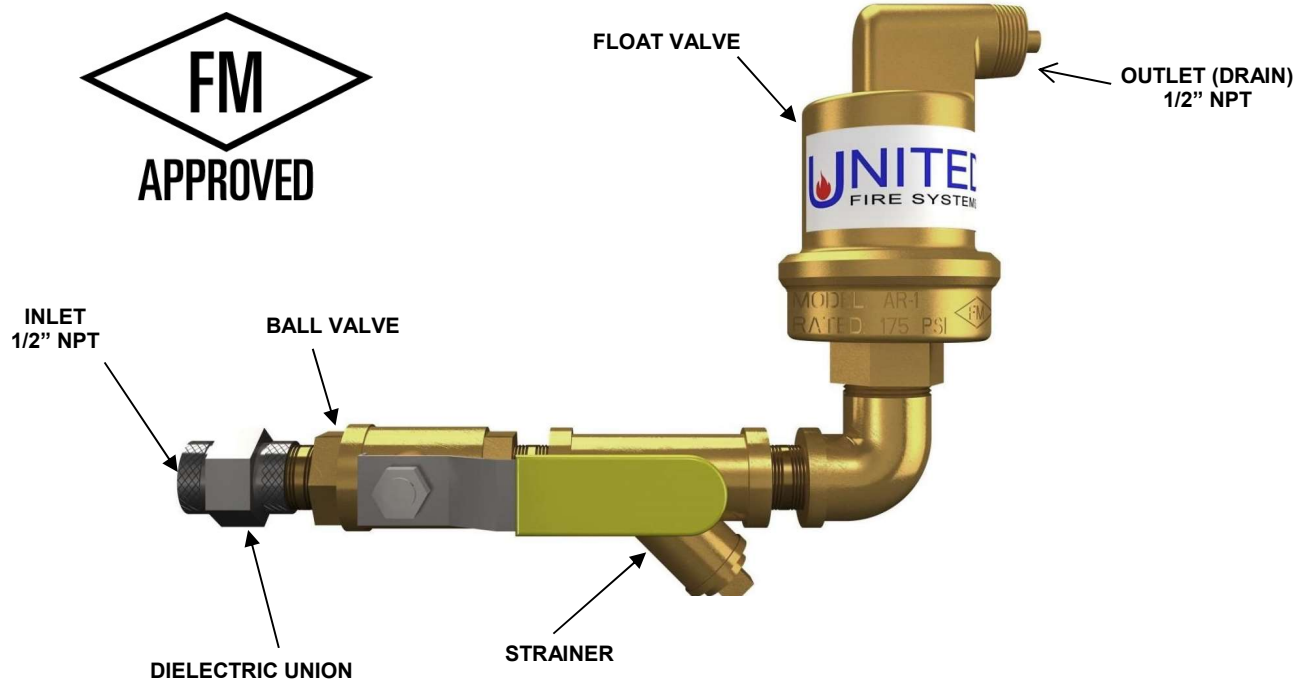
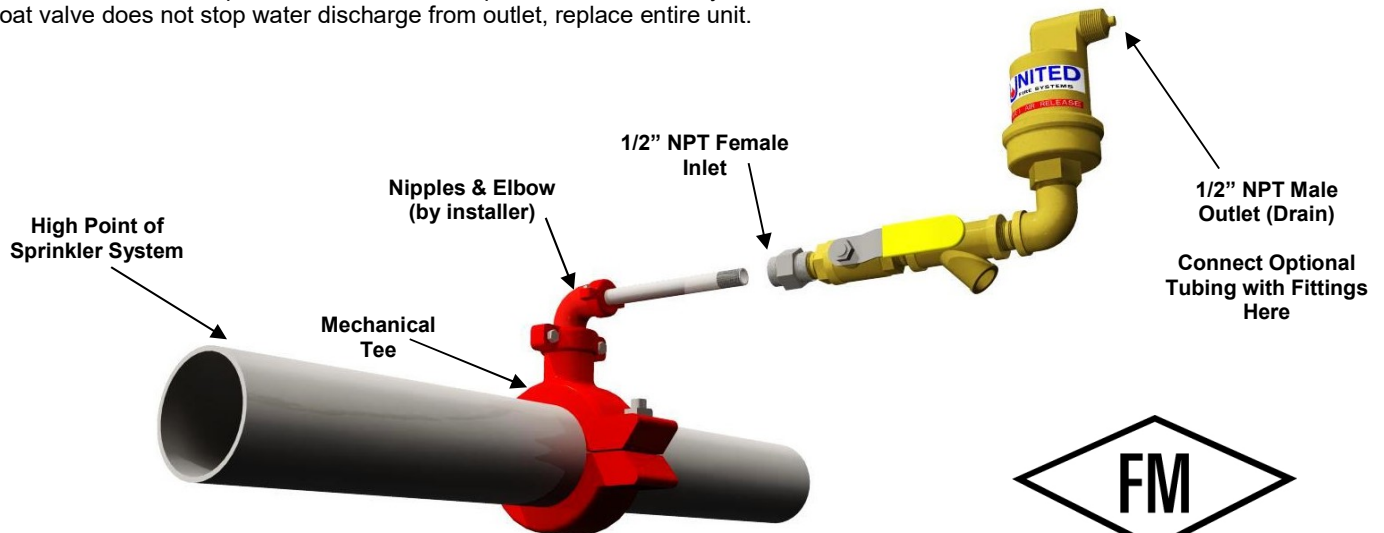

FIGURE 1
FIGURE 2
- Figure 2 shows a typical installation in a horizontal high point.
- Drill a hole in the pipe for the use of a mechanical tee, as shown in Figure 2, or use the proper fittings to provide a 1/2" NPT connection at the top of the pipe.
- Use installer-supplied fittings and nipples as shown in Figure 2.
- Use the dielectric union (see Figure 1) to ensure the proper upright orientation per Figure 2. Failure to orient the AR-1 unit(s) as shown will result in malfunction. **DO NOT disassemble the AR-1 at any time!**
- Ensure AR-1 ball valve (see Figure 1) is CLOSED.
- When all air has been released, the float valve (see Figure 1) will close, preventing large amounts of water from discharging from the outlet.
- With ball valve CLOSED, remove and clean the strainer (see Figure 1) screen with clean water and a wire brush.